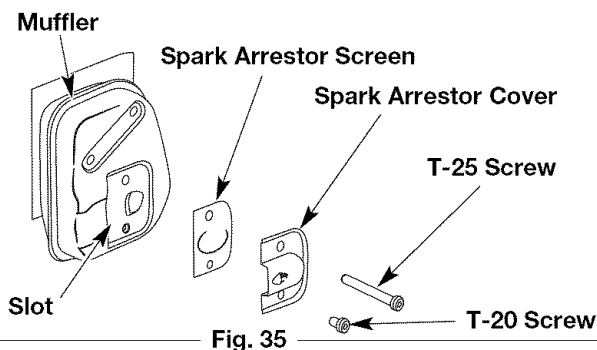

Fig. 35
2. With a flat blade screwdriver or Torx T-20 bit and a T-25 bit, remove the screws attaching the spark arrestor cover to the muffler (Fig. 35).